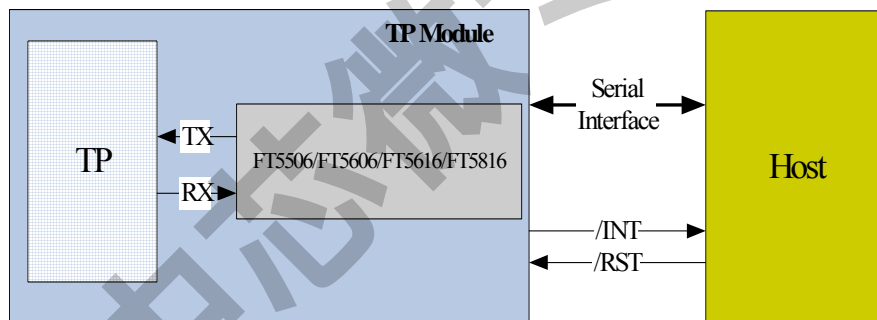

Figure 2-3 Host Interface Diagram
**Figure 2-3** shows the interface between a host processor and FT5506/FT5606/FT5616/FT5816. This interface consists of the following three sets of signals: